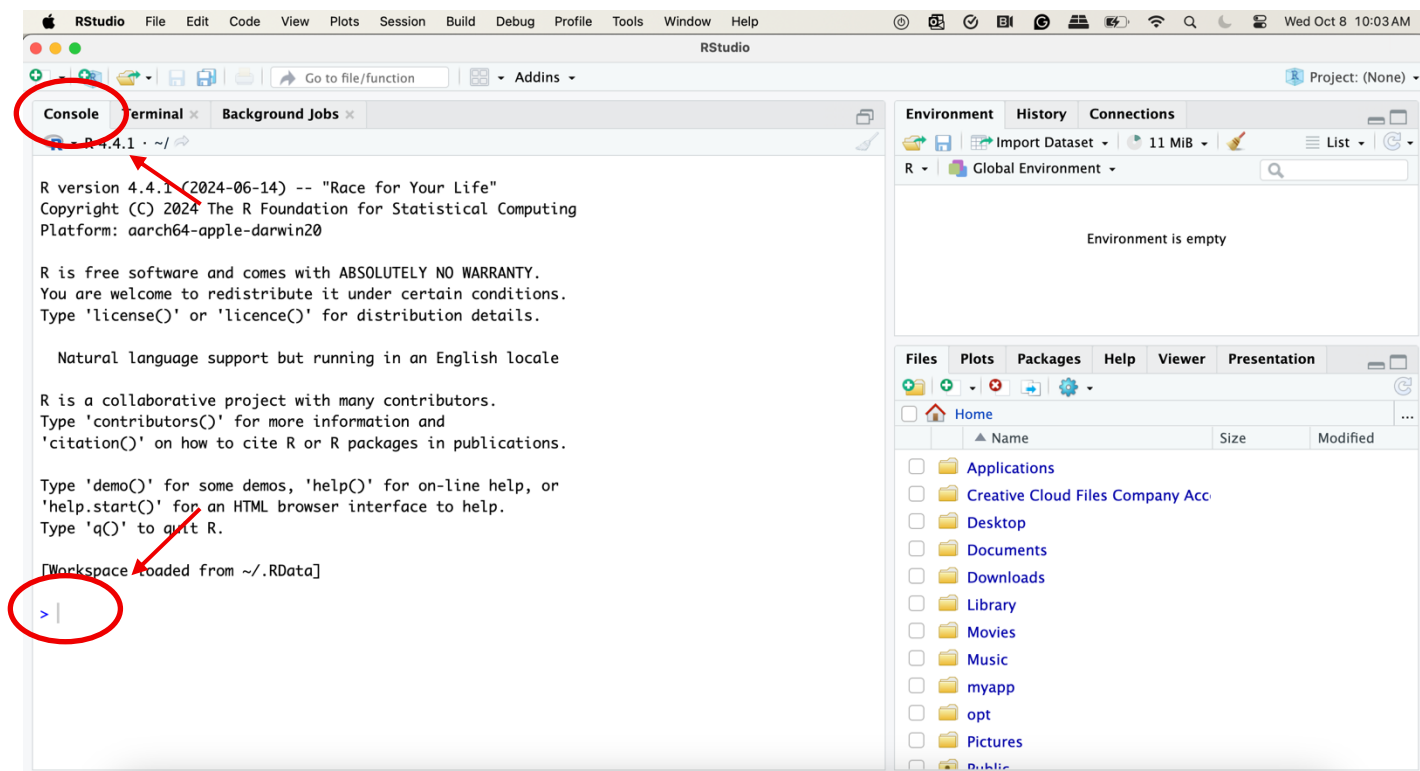

Figure 2. The Console in RStudio.
- Navigate to the RStudio Console. (Figure 2)
- Copy and paste the following lines of code into the Console after the ">" symbol. (Figure 2)